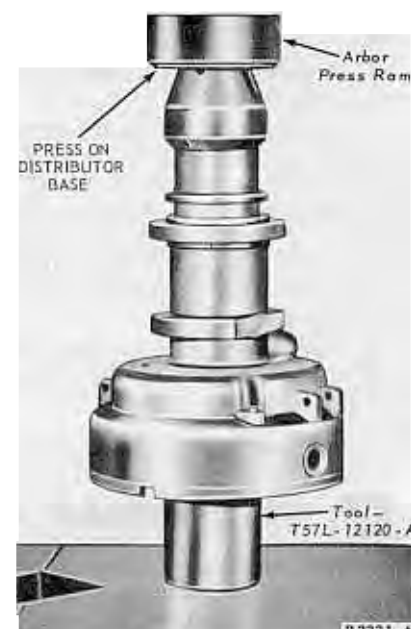

FIG. 7—Bushings Installation
1. Oil the bushing and position it in the body with the lock ring end up. Install the bushing (Fig. 7). Press the tool until the bushing bottoms firmly against the distributor body.